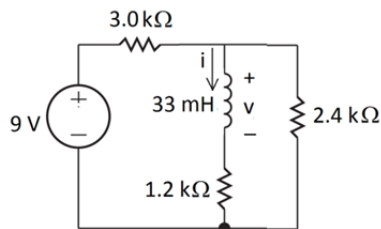

Figure 1: Inductor DC circuit
1. For the circuit in Figure 1, determine the voltage across and current through the inductor.